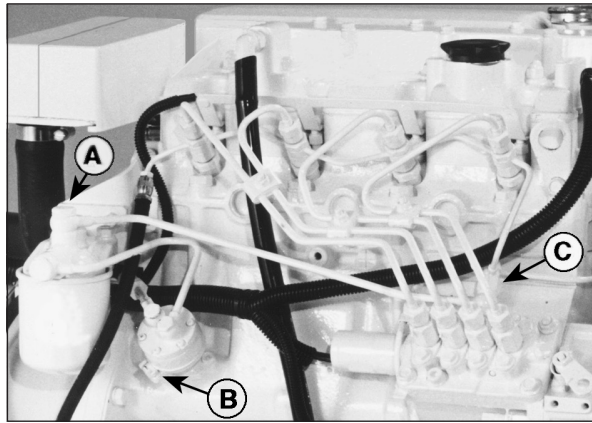

Figure 9: M844Lk Fuel System (for illustration purposes).
2. Loosen bleed bolt “A” (Figure 9) on top of the filter. Pump hand primer “B” on fuel lift pump until pure fuel (no bubbles) escapes from bleed bolt “A”. Tighten bleed screw “A”.